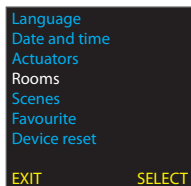

Fig. 1
- **Range test** - used to determine the quality of the signal between the RF Pilot and the controlled actuator (Fig. 1). Use the direction button to select the actuator the signal of which you want to test. Confirm using the T1 button (Fig. 2). The test result will be displayed after approx. 10s (Fig. 3). Reach Test is an optional function.
- **Remove** - used to delete the actuator from the memory of RF Pilot (Fig. 1).
Menu **Rooms** is used to name the rooms, the name will be displayed in the main menu list. Move in the Settings Menu using the direction button to select **Rooms**. Press T1 to enter the menu (Fig. 1). By pressing the direction button select the Room and confirm by pressing T1 (Fig. 2). The menu is displayed (Fig. 3):